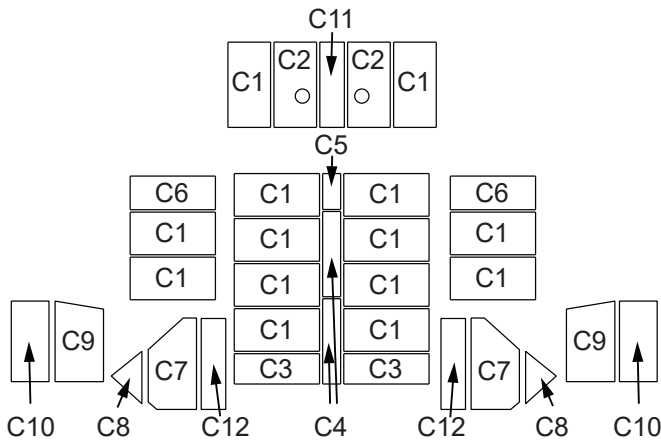

Figure 1
2. Remove new brick set from box and lay out to diagram shown in **Figure 1**.